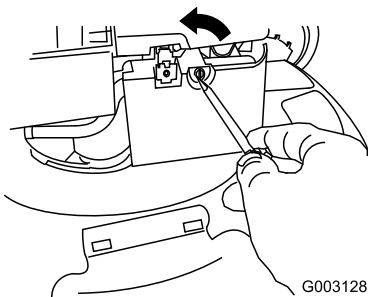

Figure 32
2. Use a screw driver to open the air filter cover (Figure 32).